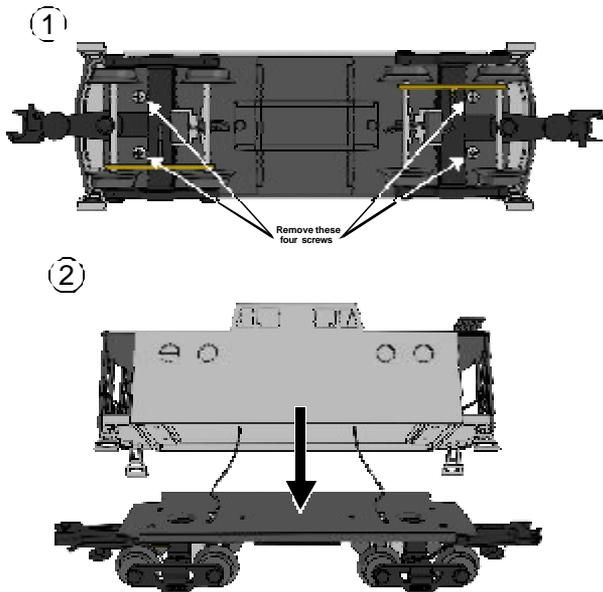

Figure 15-1,2. First two Steps of Changing the Caboose Lights
1. To remove the shell from chassis remove the four screws located underneath the trucks (figure 15-1).